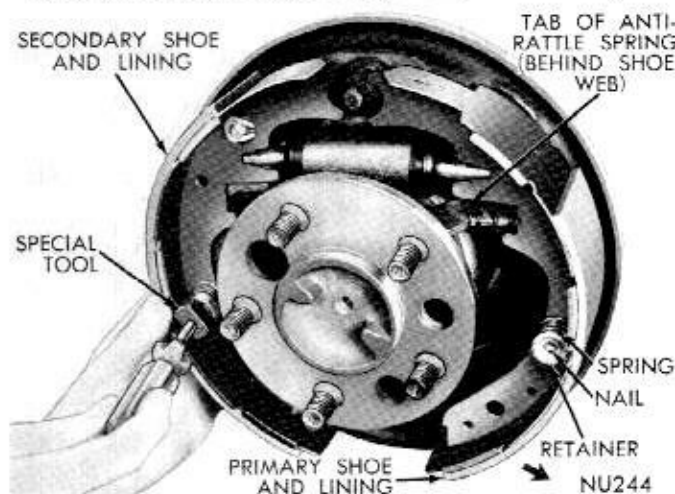

Fig. 7—Removing or Installing Shoe Retainers, Spring and Nails (Right Rear)
(5) Remove brake shoe retainers, springs and nails. Using Tool C-4070, (Fig. 7).